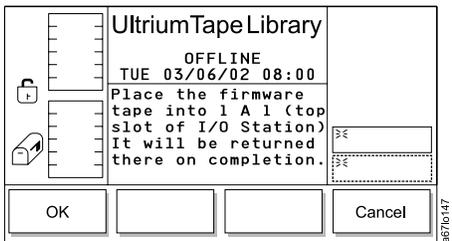

Figure 8-8. Firmware Update Dialog
3. Press the button below the **Firmware Update** softkey. The Firmware Update Dialog displays (see Figure 8-8).